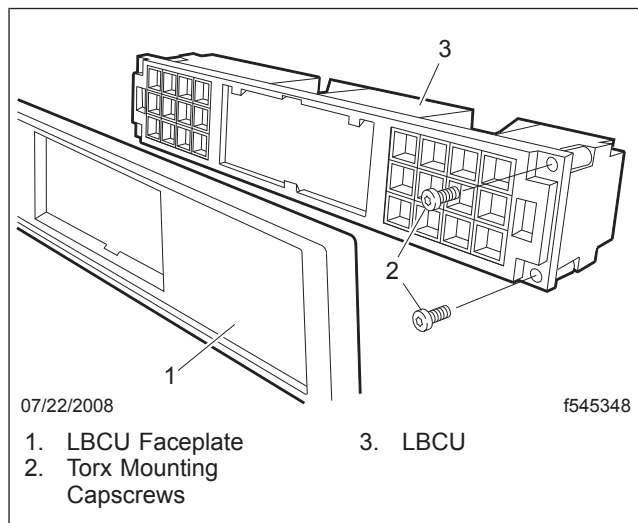

Fig. 1, LBCU Replacement
3. Remove the LBCU faceplate. Place a small flat blade under each center-end of the LBCU faceplate. Carefully pry the faceplate forward to release the locking end tabs. See Fig. 1.